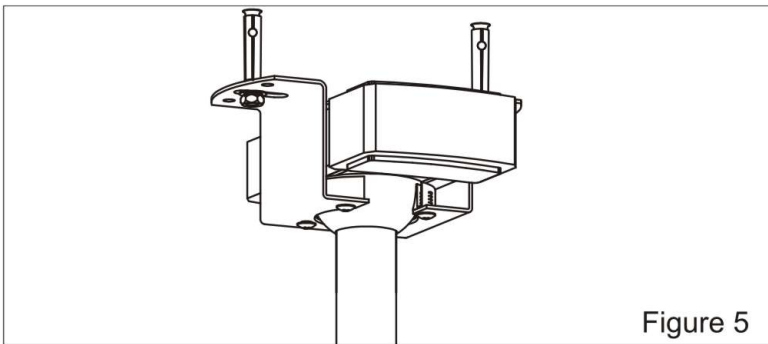

Figure 5
□ Route wires through motor coupling cover , canopy screw cover and ceiling canopy. ( Figure 5 )
- Use bandage to extend into the wave filter mounting hole and the screw hole of the hanger bracket, and tighten bandage (for subsequent installation of the ceiling Canopy). (Figure 5)